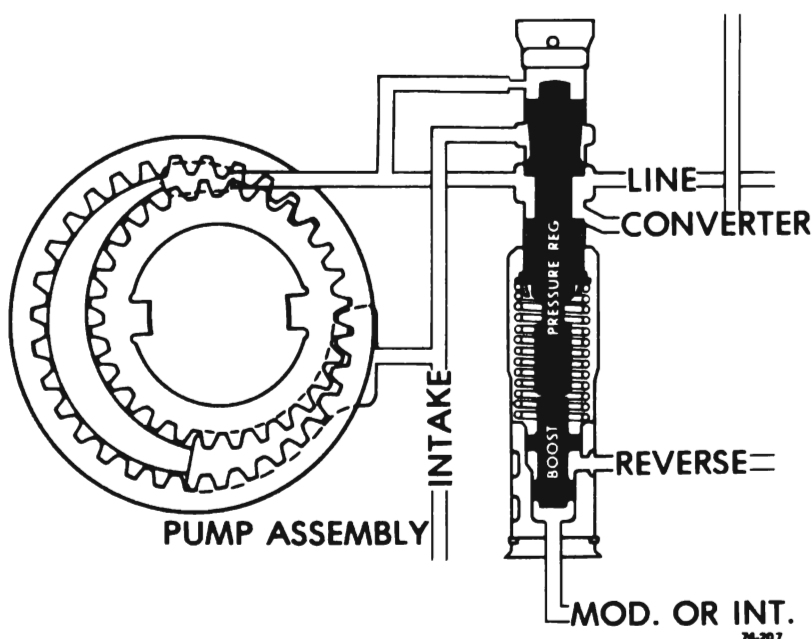

Figure 76-13 - Pump and Pressure Regulator Valve
The transmission is automatically controlled by a hydraulic system. Hydraulic pressure is supplied by the transmission gear type oil pump, which is engine driven. Main line pressure is controlled by a pressure regulator valve train located in the pump. This regulator controls line pressure automatically, in response to a pressure signal from a modulator valve, in such a way that the torque requirements of the transmission are met and smooth shifts are obtained at all throttle openings. See Figure 76-13.
a. Regulates line pressure according to a fixed spring force and forces controlled by modulator and reverse pressure. See Figure 76-13.